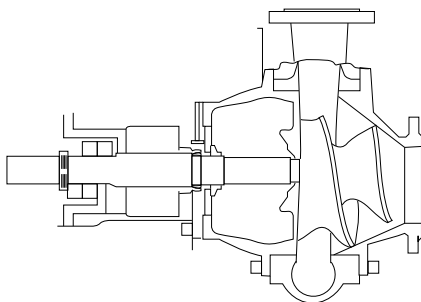

FIGURE 9. Screw Centrifugal Pump
- This pump incorporates a large-diameter screw instead of the more common radial impeller that is found in centrifugal pumps (Figure 9).